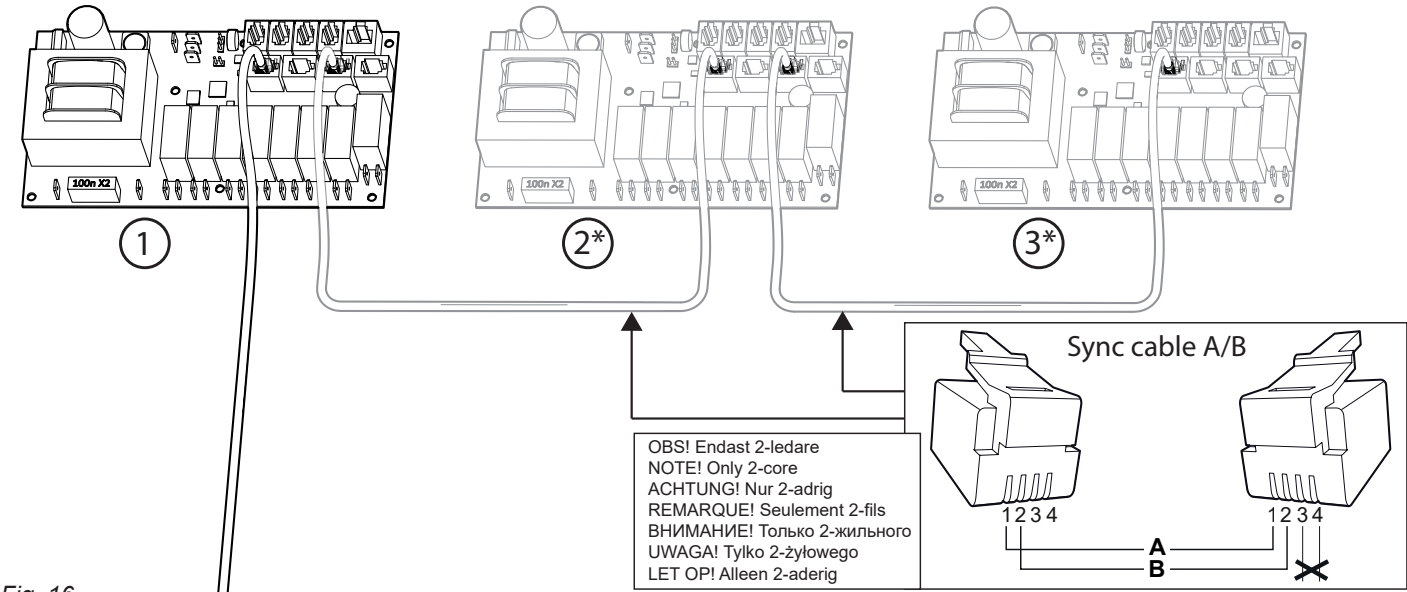

Fig. 16
The connections between the generators use a low power cable (2 core, RJ10 2P4C A/B) with an RJ10 connector, (Fig. 16.) Refer to the section "Modular connector description" (Fig. 17) for more information on the pin configuration.
If one steam generator needs servicing the others can remain in operation. One generator that is set as a secondary is disconnected by removing the cable from between the circuit boards. (Fig. 16)
- 2. Disconnect the cable that connects the control circuit boards (Fig. 16)